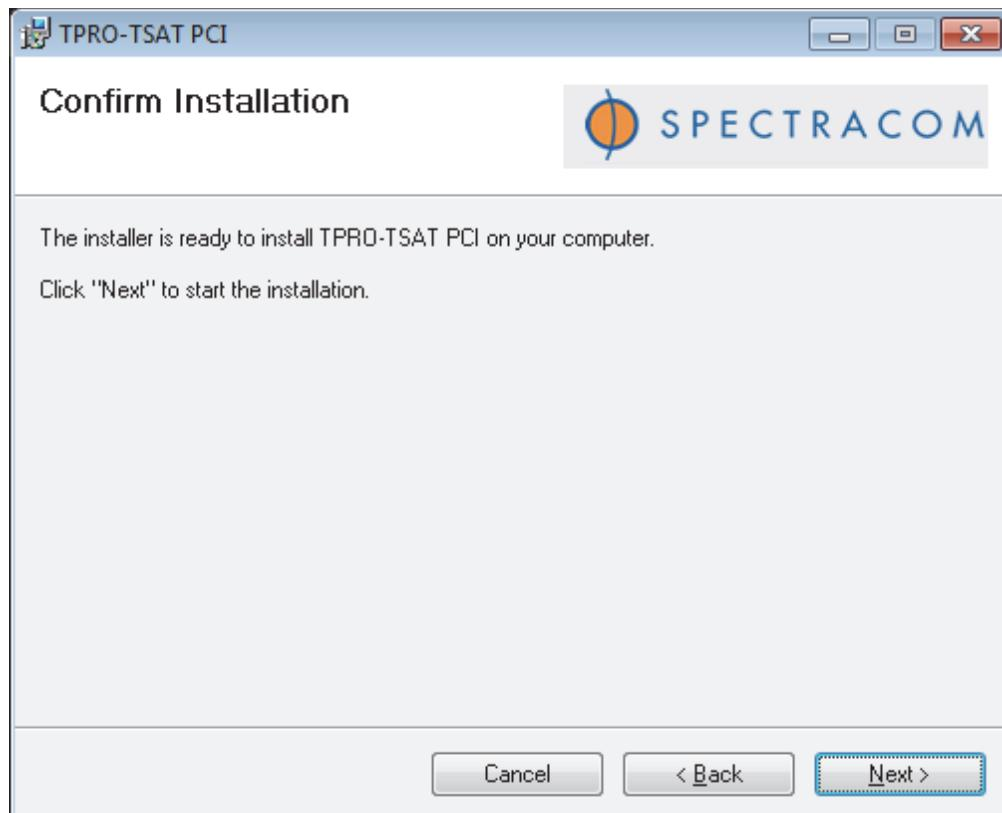

Figure 5-31. TPRO-TSAT PCI Select Installation Folder Window
4. Select **Next** at the TPRO-TSAT PCI Select Installation folder window as shown in Figure 5-31.